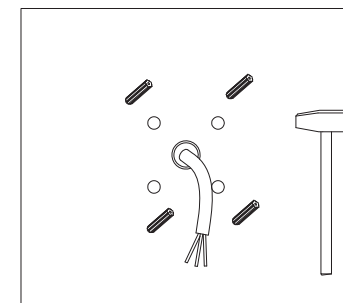

Figure 6
Step 4: Fix rubber plugs into holes (Figure 6)